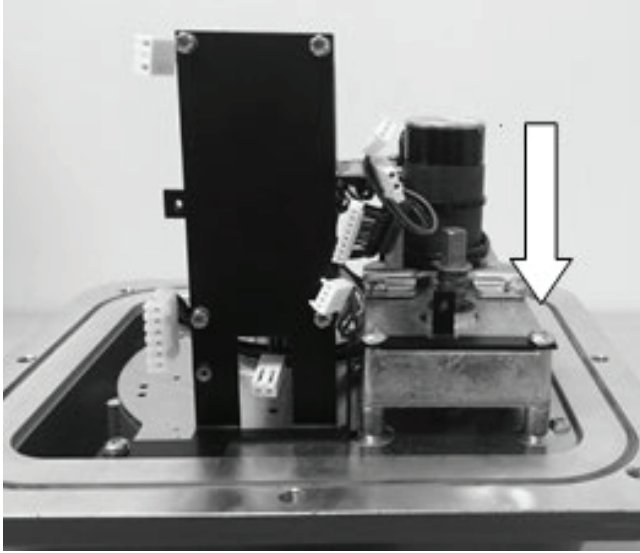

Figure 30.
- 4.32 Install the other screw to the motor/gearbox, as shown in Figure 30.